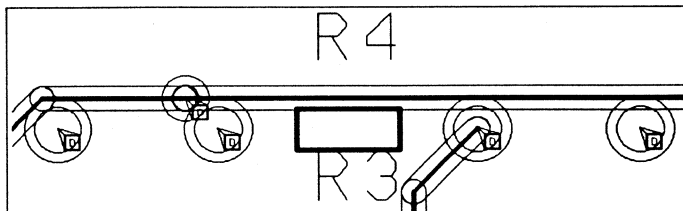

Figure 7-8. Copper to copper spacing of violated objects.
4. Enable **Show Copper And Guard While Drawing**, then select **OK**. All copper objects display their copper to copper spacing boundaries, as shown in figure 7-8.